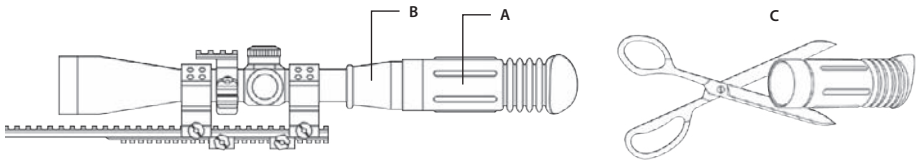

FIGURE 3-12. LIGHT SUPPRESSOR FOR A DAY SCOPE
The Light Suppressor for a Day Scope (A, Figure 3-12) slides over the eyepiece of your daytime scope (B). The suppressor can be used with scopes that have 40...43mm eyepiece diameter and 100...120 mm eye relief.